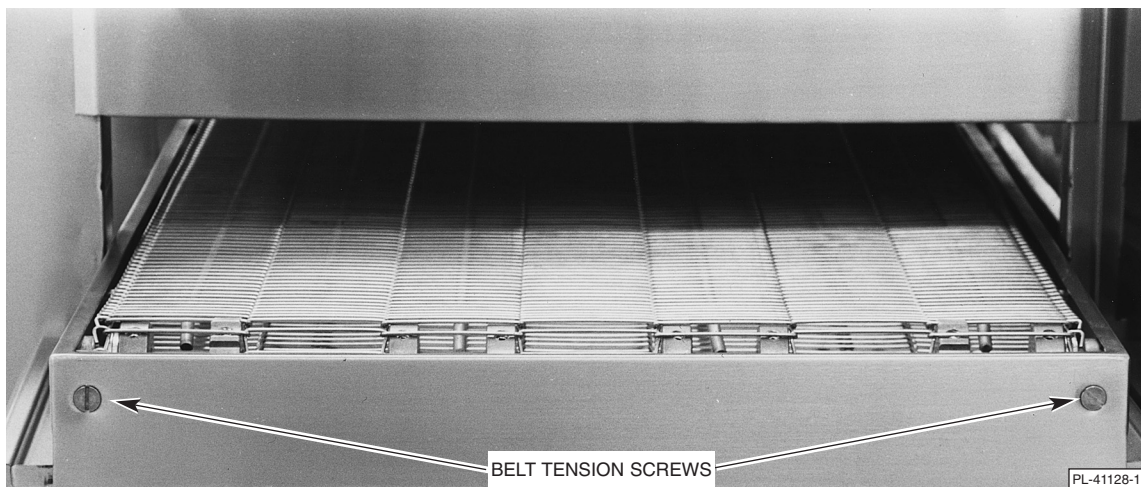

Fig. 8
1. Locate the two adjustment screws (Fig. 8) on the right hand end (facing machine) of the conveyor assembly.
- a. Loosen belt tension screws at the end of the belt track (Fig. 8).